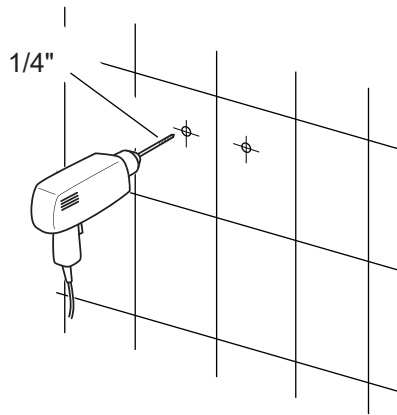

Fig 2.1
**2-1** Drill 1/4" holes at the marked positions. (Fig 2.1)